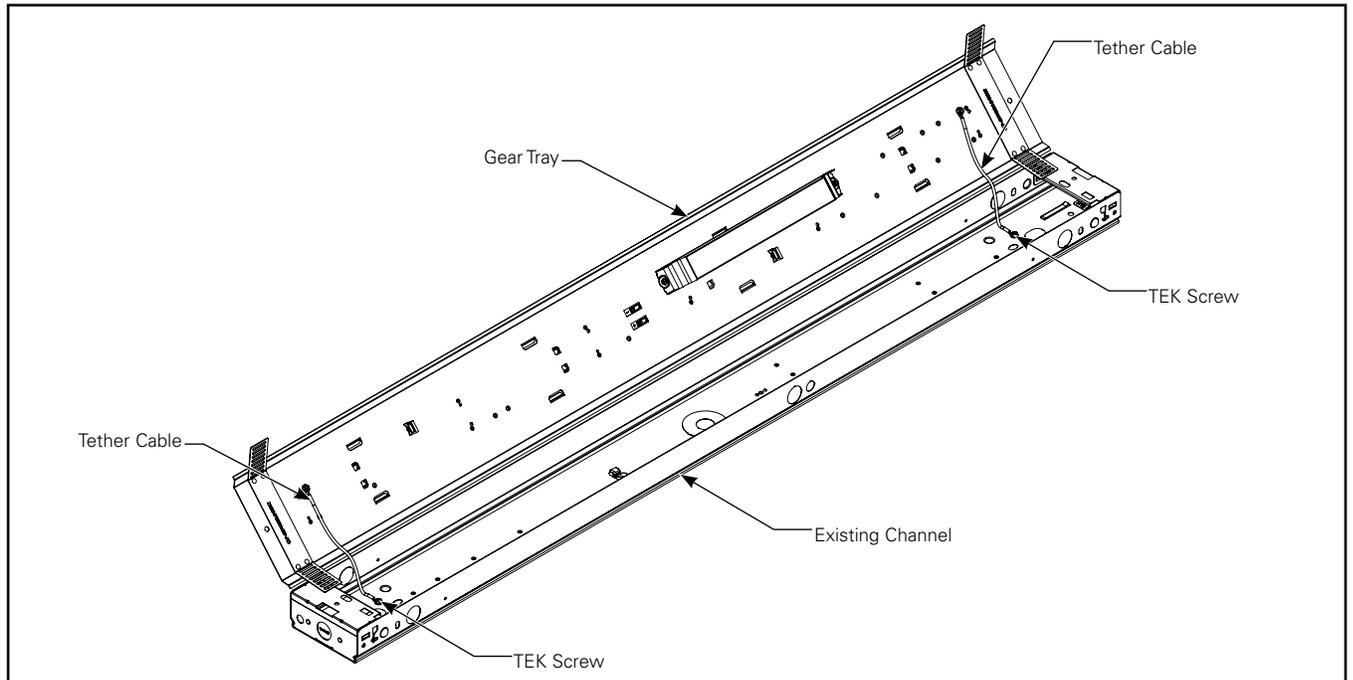

Figure 2.
- Using 2 TEK screws, attach the gear tray tethers to the existing fixture. (Figure 2.)